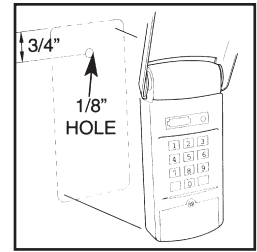

Figure 3
3. Drill a 1/8" hole 3/4" directly below this mark. See Figure 3.